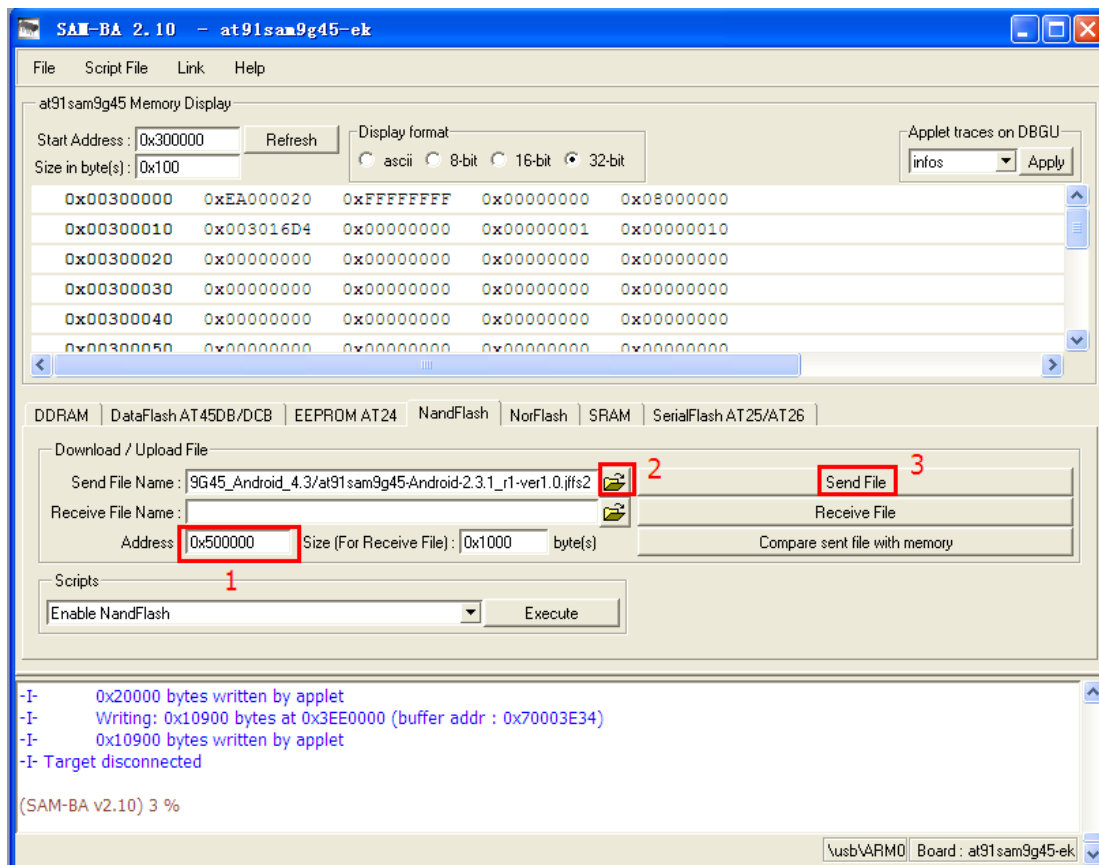

Figure 5-11
(8) Download at91sam9g45-Android-2.3.1_r1-ver1.0.jffs2 to 0x500000. Refer to figure 5-11: